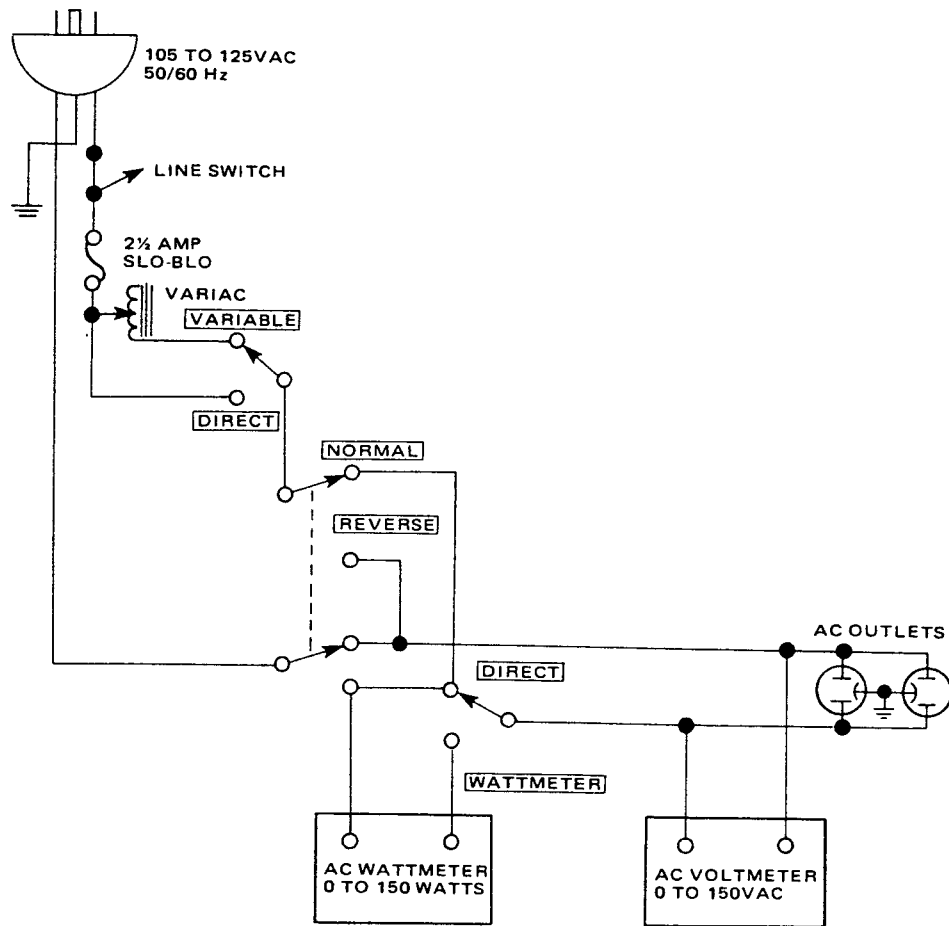
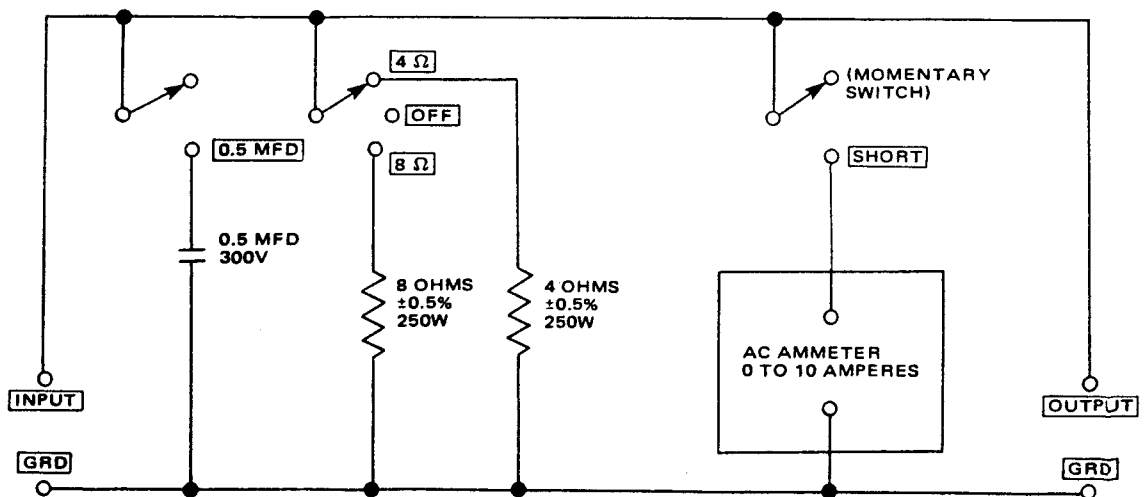

Figure 1. AC Power Control Box Simplified Schematic
Figure 2. Amplifier Output Load Box Simplified Schematic
Table 1 lists the test equipment required for servicing the PM500/PM700 Stereo Console Amplifier. The wattmeter, AC voltmeter, and variable autotransformer may be assembled as a test fixture as shown schematically in Figure 1. The load resistors and AC ammeter may be assembled into a second test fixture as shown in Figure 2.
1. Make the test setup shown in Figure 1 with the instrument controls set in the following positions: